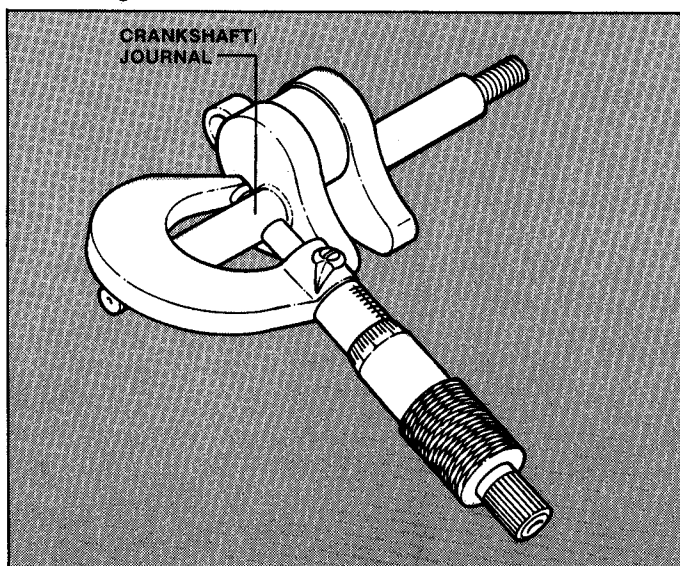

FIGURE 2.9
1. Measure the outside diameter of each crankshaft journal with a micrometer. See Figure 2.9.